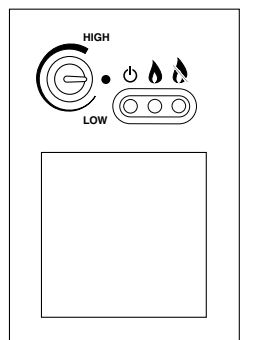

Fig. 7
3. Turn the boiler thermostat control knob fully anti-clockwise to the OFF position marked “●” (Fig. 7).
8. Turn the boiler thermostat control knob fully anti-clockwise to the OFF position marked “●” (Fig. 7).